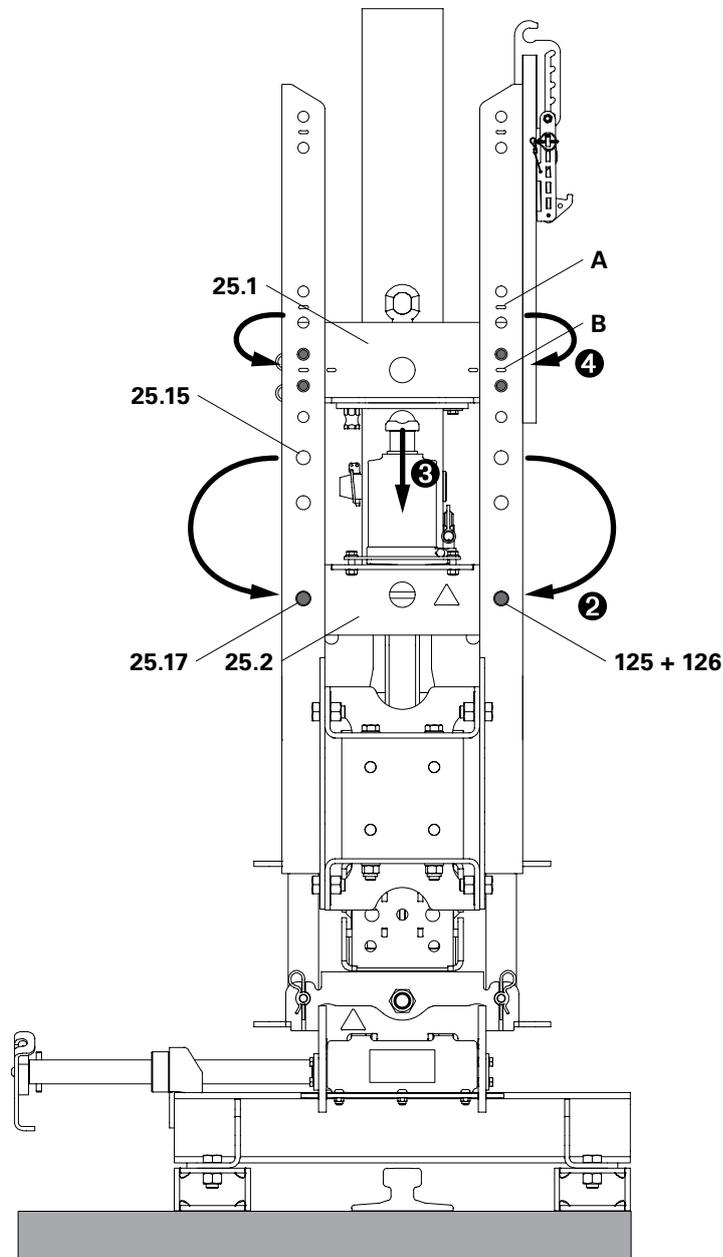

Fig. D2.13
2. Insert Cross Beam (25.2) at the moving position (25.17) in the Lift Frame using fitting pins  $\varnothing$  26 mm (125) and cotter pins 5/1 (126).
4. Remove Main Beam (25.1) from the top position (A) of the Lift Frame and install in the bottom position (B) or intermediate position.
5. Carefully raise the Hydraulic Jack until the fitting pins (125) are free of load in the Cross Beam (25.2).
6. Remove fitting pins  $\varnothing$  26 mm (125) from the Cross Beam and insert in the parking position (25.15) with cotter pins 5/1 (126).
7. Continue the lifting procedure. (Fig. D2.13)